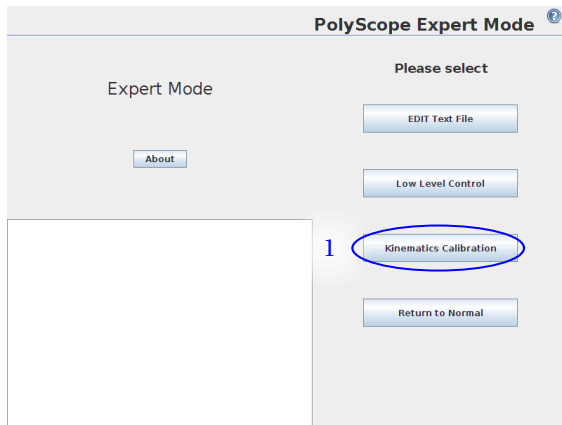

Figure 1.2: Select "Kinematics Calibration" in "Expert Mode" to get access to the calibration functionality.
The starting point for the steps of the tutorial is a screen that looks like figure 1.2.
- (1) The functionality can be found in the "Expert Mode" on the controller screen by pressing the "Kinematics Calibration" button as illustrated in figure 1.2.